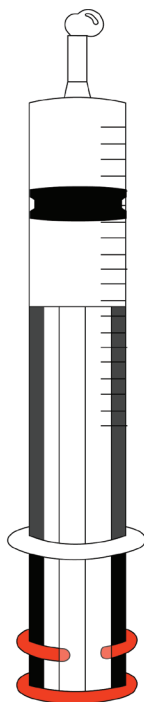

Figure 33 Remove air
31. Remove the syringe from the tube, turn it upside down, and remove residual air (Figure 33).